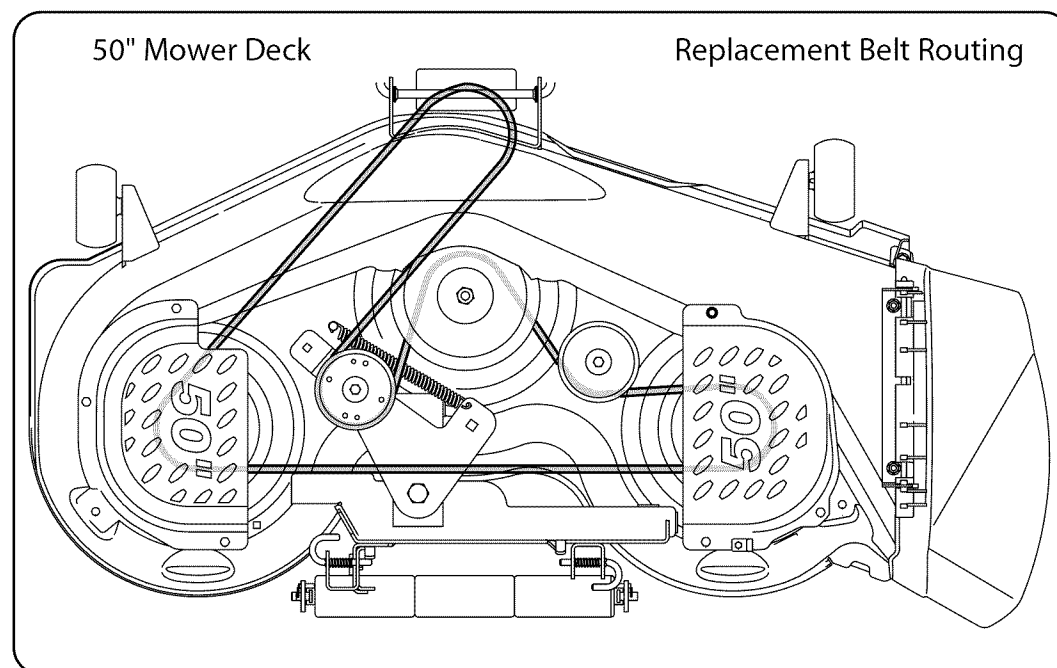

Figure 28 Replacement Belt Routing 50" Mower Deck
3. Route the deck belt around the spindle pulleys and idler pulleys as shown in Figure 28.